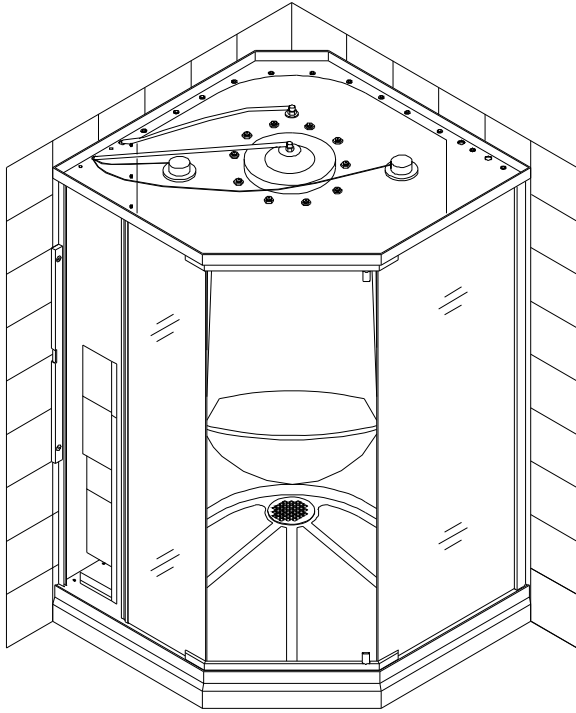
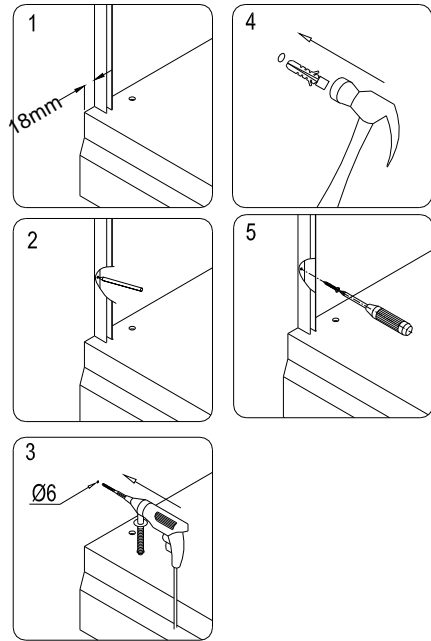

Fig 21
Fig 22
19. Locate the **wall profile (11)** from the package then place it vertically above the tray. Using a level to adjust the wall profile upright; then use predrilled aluminum profile holes to marks wall for drilling. Now drill the holes and insert the **Wall anchor (18)** into the holes. Apply silicone sealant along the holes on the wall. Use **Round head screw ST4.2x25 (17)** to attach the wall profile to wall. See Fig 21 and Fig 22 for details.